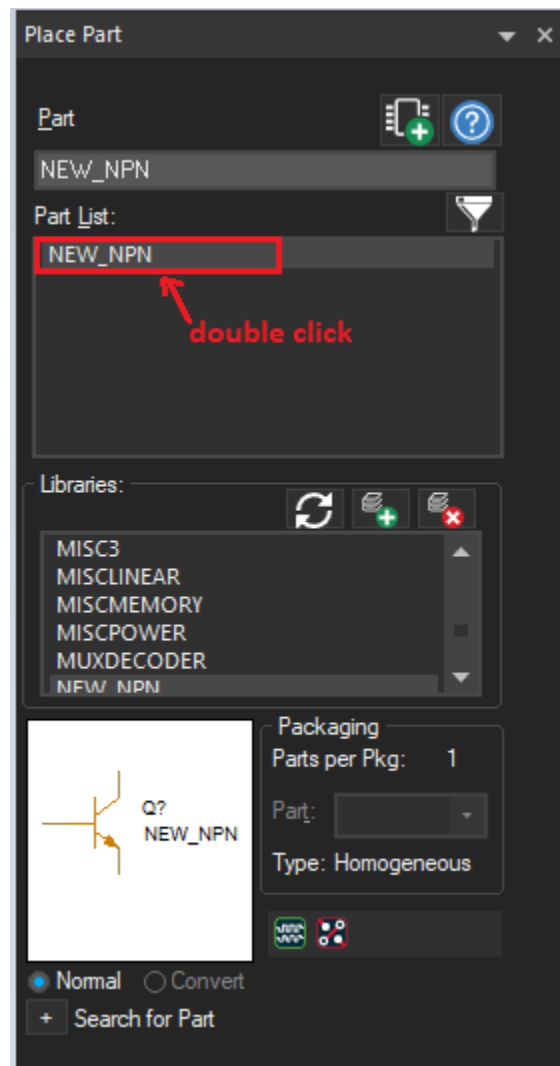

Figure 1-17: Place Part GUI
21. Select only the **NEW_NPN** library and then highlight the **NEW_NPN** cell, as shown in Figure 1-17